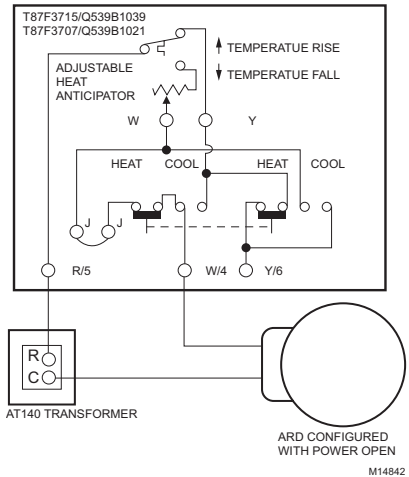

Fig. 1. Wiring single ARD (power open) to thermostat.
3. Connect wires to the terminals inside the wallplate or subbase. See Fig. 1 and 2 or zone control panel installation instructions for wiring diagrams of typical zone systems.